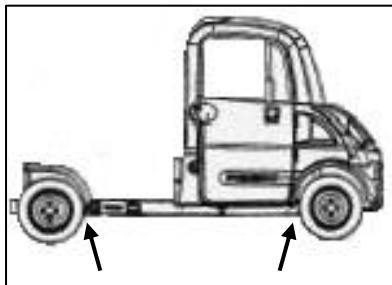

Figure 3-2
1. To lift the rear, place wheel chocks in front of front wheels to prevent vehicle from rolling. Place floor jack under the rear cross frame. Do not use the cargo bed for lifting. Raise vehicle sufficiently to place jack stands underneath frame. See Figure 3-2 arrows.